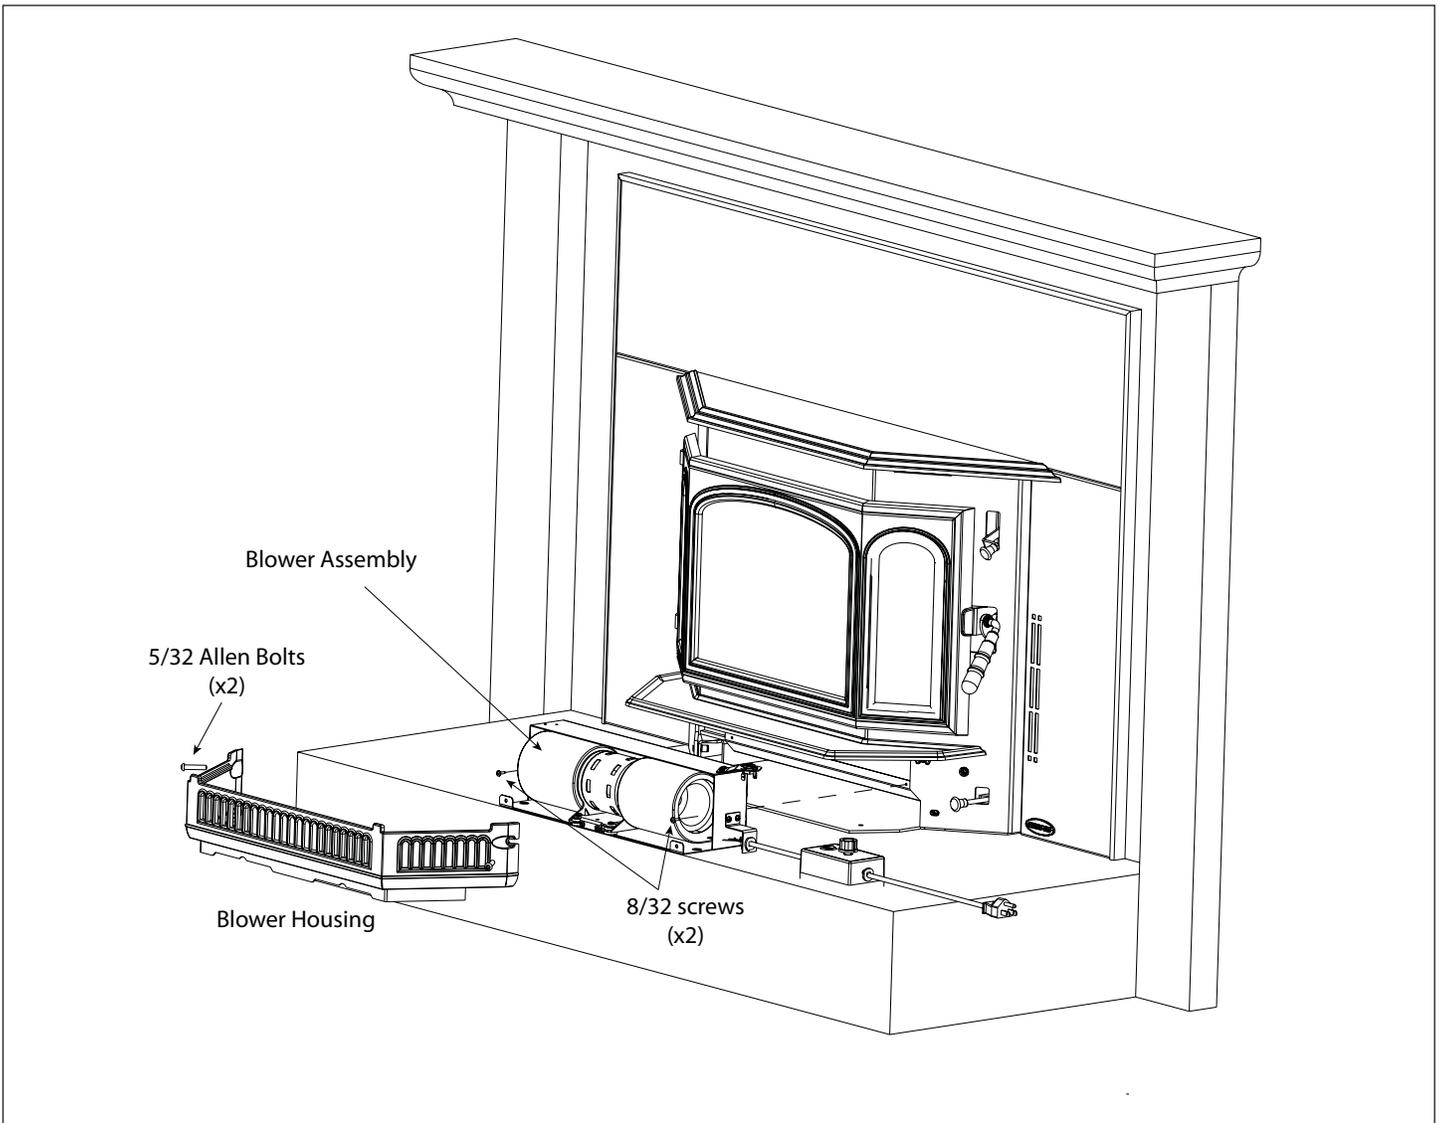

Figure 42.1
2. Remove Blower assembly from appliance by removing two 8/32 phillips head screws located under ashlip. **Figure 42.1.**